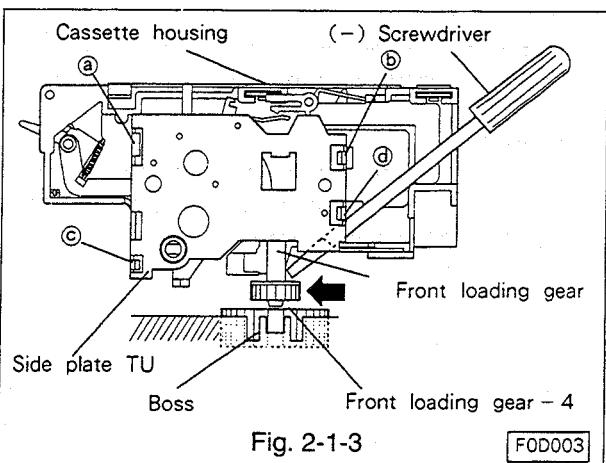

Fig. 2-1-3
- B. In step A above, if the front loading gear of the cassette housing does NOT engage the boss on the main plate, carefully push the gear toward the front of the VCR using a small-diameter screwdriver, as illustrated in Fig. 2-1-3. If the gear still will not engage, rotate the Front Loading Gear a few degrees from below the deck until the gear engages the boss correctly.
#### **2-2-1 Removal(Refer to Fig. 2-1-3~2-2.)**
- A. Unfasten four snaps( **a** ~ **d** )as shown in Fig. 2-1-3, and remove the side plate TU.